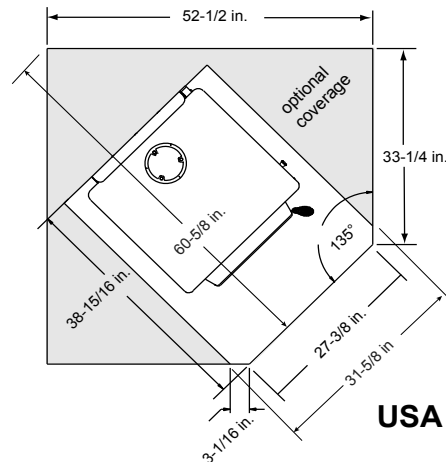

Figure 8.2
In Canada, it is required to install ember protection 18 inches (457mm) in front and 8 inches (203mm) from the sides and rear of the appliance. **Figure 8.2 *See exception.**
***EXCEPTION:** Non-combustible floor protections must extend beneath the flue pipe when installed with horizontal venting and extend 2 inches (51mm) beyond each side. **See Figure 8.2**